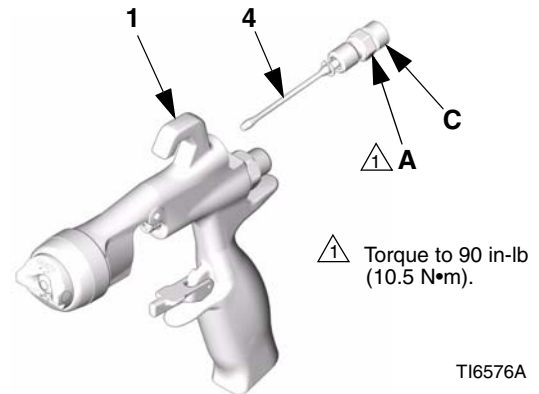

FIG. 35
2. Unscrew the fan valve packing nut (A) from the back of the gun body (1). Slide the fan valve assembly (4) out of the gun body. See FIG. 35.
3. Before reinstalling, turn the pattern adjustment valve (C) of the replacement fan valve assembly (4) completely counterclockwise to prevent damage to the seat (5c). Install the replacement fan valve assembly into the gun body (1). Screw the packing nut (A) into the gun body and torque to 90 in-lb (10.5 N•m).